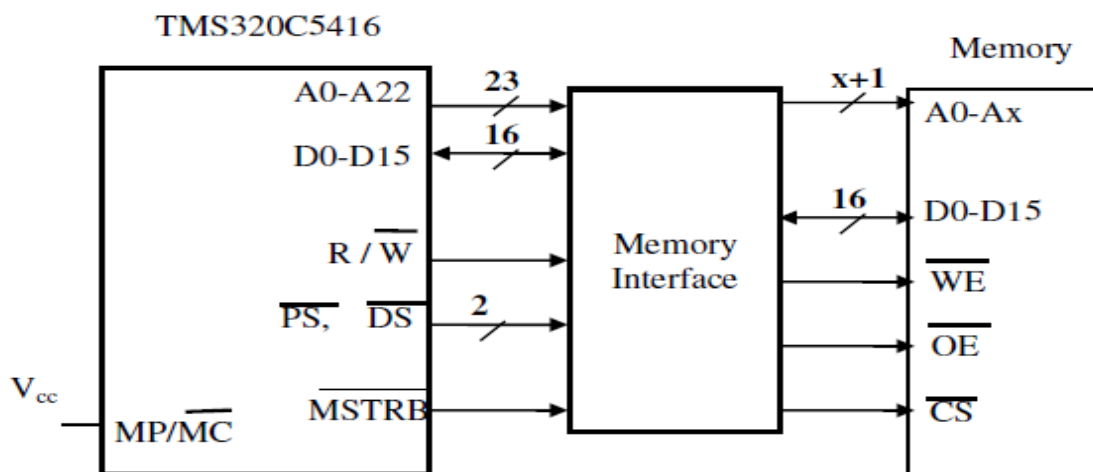

Fig. 7.4 Memory Interface for TMS320C5416
- The logical spacing of interface is shown in fig. 7.4.